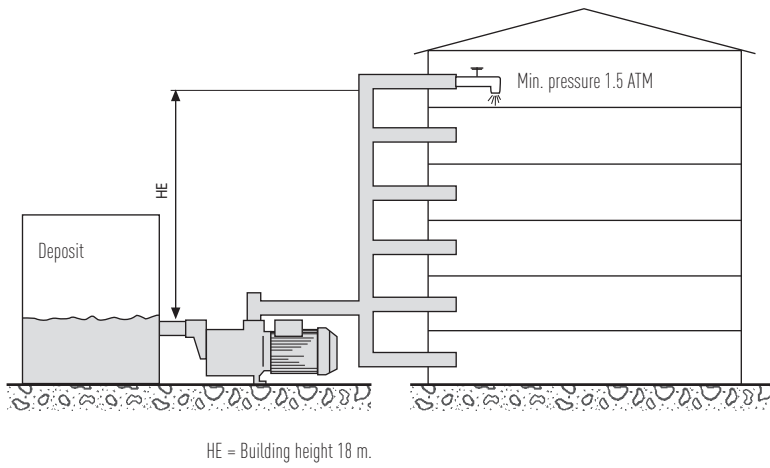

Fig. 2
Case (A) The height of the highest collection point is added to the pressure required at that point, plus any relevant pressure drops. (See example in Fig. 2)